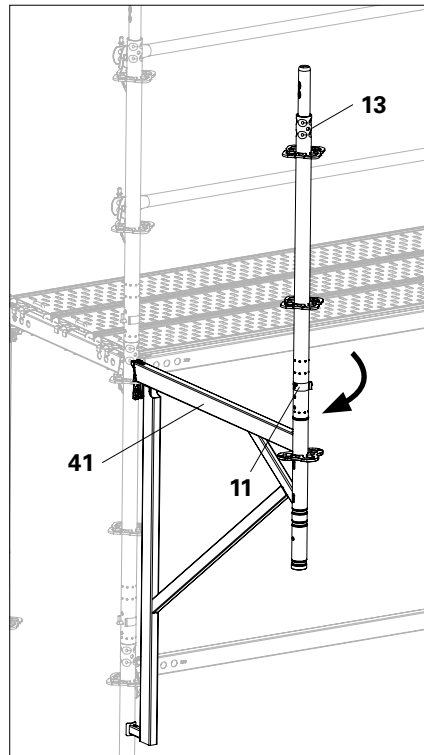

Fig. A6.04
3. The further assembly of the console brackets with the attached standard is done by swivelling them outwards as described previously. (Fig. A6.04)